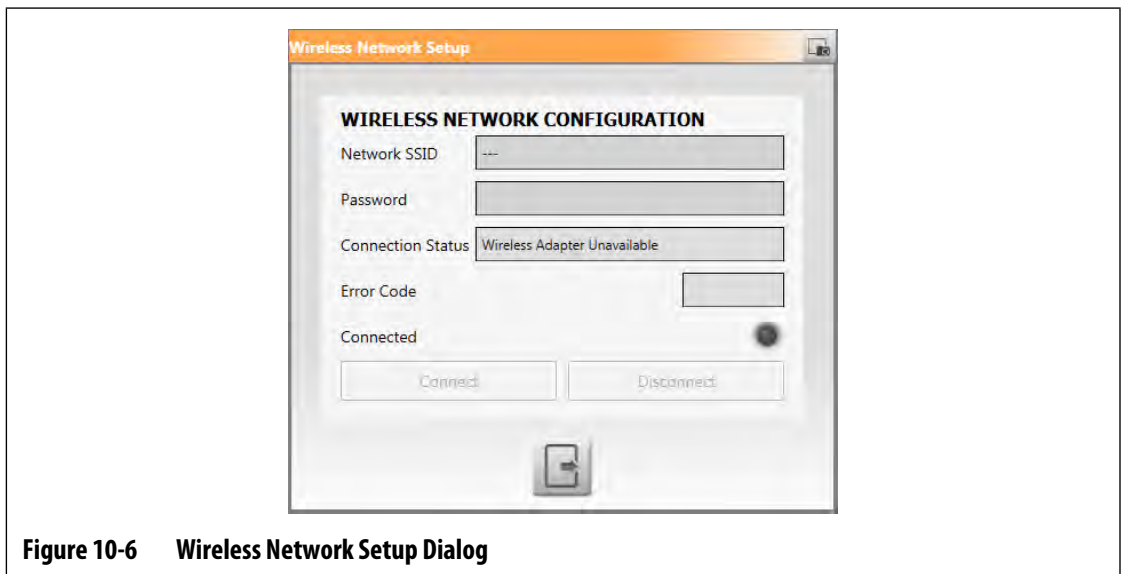

Figure 10-6 Wireless Network Setup Dialog
1. Touch the **Setup** button in the WIRELESS NETWORK section of the screen. The Wireless Network Setup dialog shows. Refer to Figure 10-6.